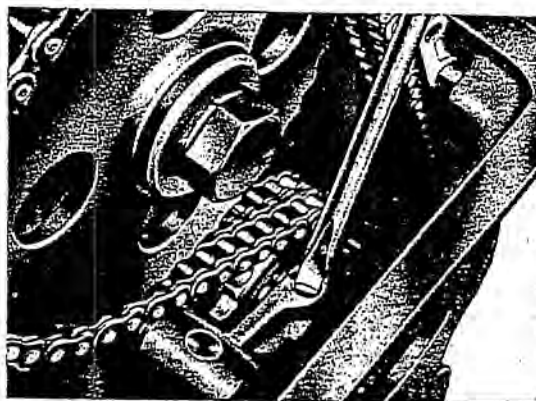

Fig. 05-10/1
5. Fill the oil case in the cylinder head with engine oil. Use Bleeder Lever Part No. 187 589 02 63 00 or, if necessary, a screw driver to push the tension sprocket bearing as far as it will go (see Fig. 05-10/1). Slowly release the lever or the screw driver at the same time filling up the oil in order to ensure that the oil case is always full and the chain tensioner cannot suck in any air. Repeat this procedure until there are no longer any air bubbles on the chain tensioner. When the chain tensioner is properly bled there is no free travel and even at the beginning the tensioner can only be compressed with considerable force.